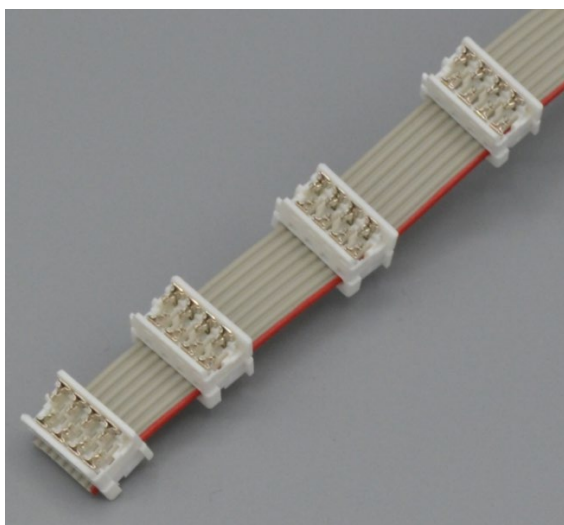

Figure 12 Slide Connector
4. Connect the next device to the ELLB Control Bus Distributor (refer user manual on www.thorlabs.com) or to a daisy chain (refer to Figure 12).